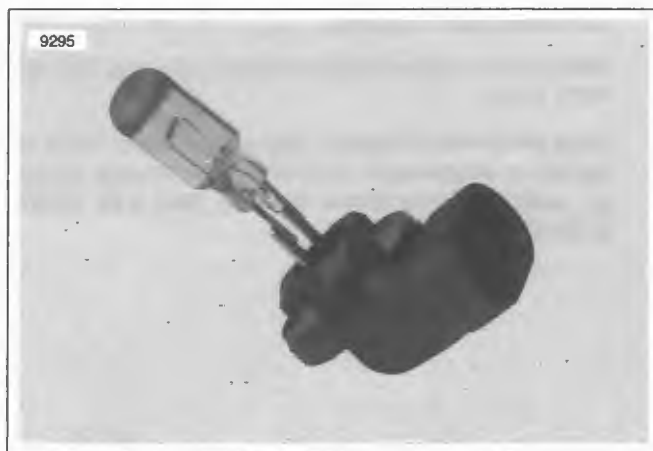

Figure 8-51. Auxiliary Lamp Bulb/Pin Housing
4. See Figure 8-51. Rotate bulb/pin housing 1/4 turn in a counterclockwise direction and remove from auxiliary lamp. Discard bulb/pin housing.
1. See Figure 8-51. Install **new** bulb/pin housing in auxiliary lamp and rotate 1/4 turn in a clockwise direction.